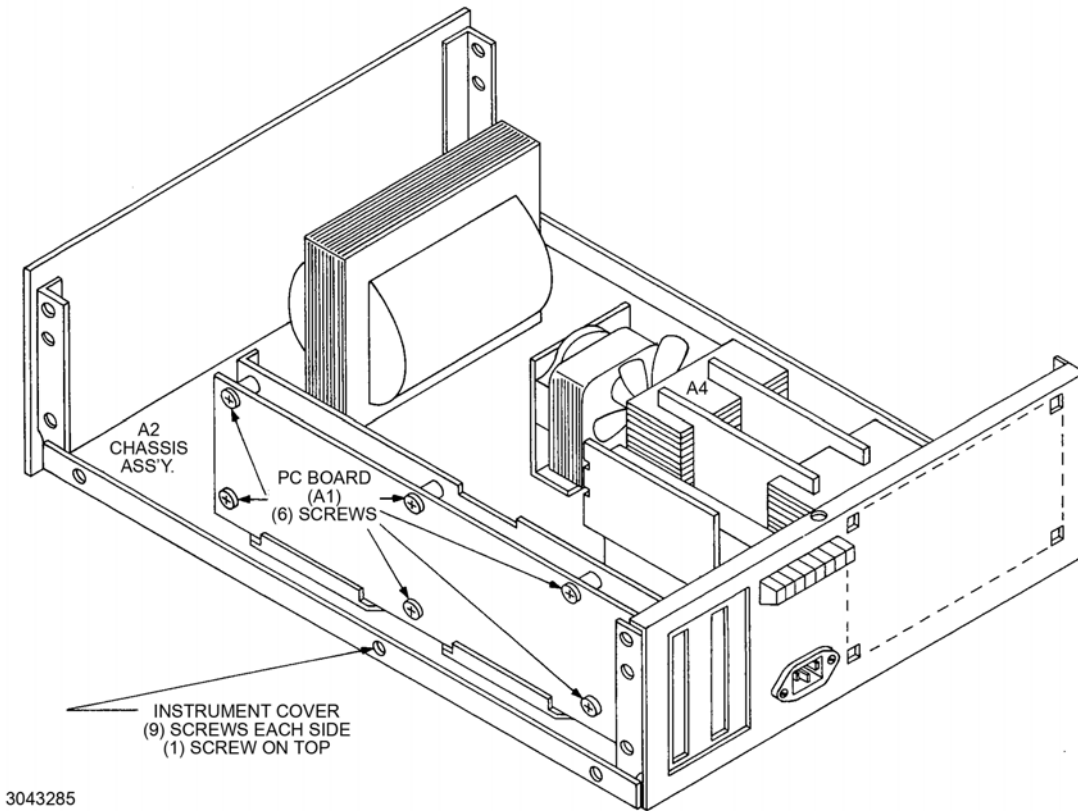

FIGURE 1. BOP DISASSEMBLY
1. Disconnect unit from power source and remove wrap-around cover by removing 11 screws (see Figure 1): five screws from each side and one at the top. Be careful not to damage ground strap attached to cover. For convenience the ground strap can be removed from the cover.